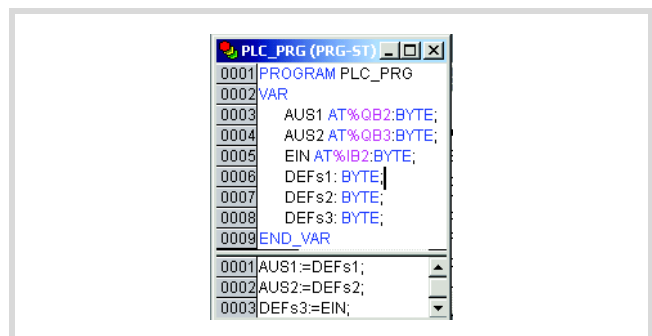

Figure 84: User program for XC100
► Create the program in accordance with Figure84.